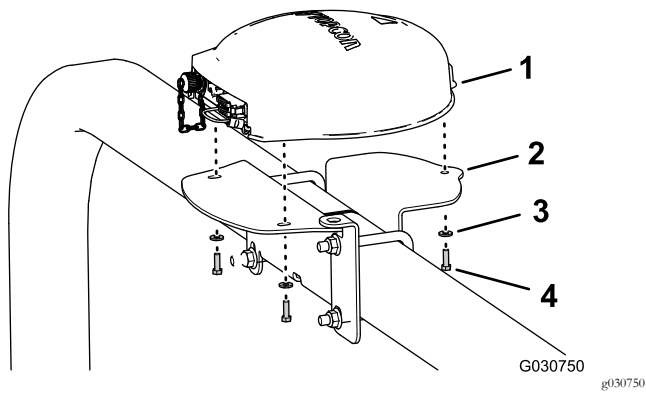

Figure 145
4. Align the 3 threaded in the base of the navigation receiver to the 3 holes in the receiver mount (Figure 145).
- Assemble the receiver to the mount (Figure 145) with the 3 hex-head bolt (5 x 16 mm) and 3 washers (5 mm).